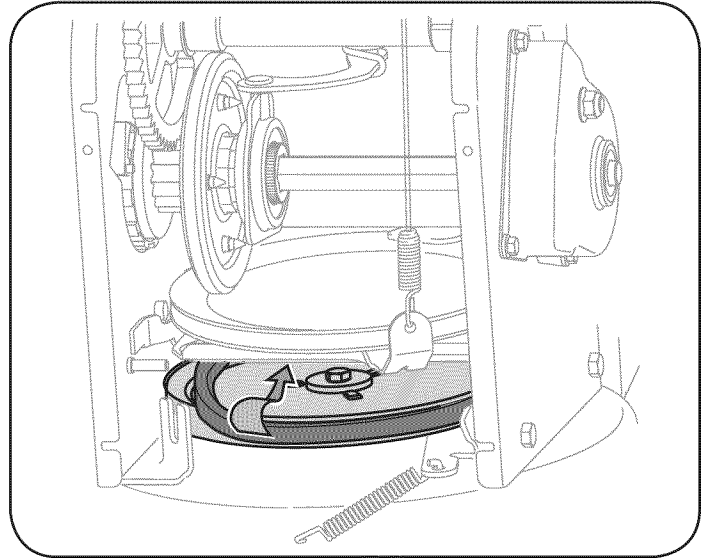

Figure 31
7. Remove the belt from around the auger pulley, and slip the belt between the support bracket and the auger pulley. See Figure 31.